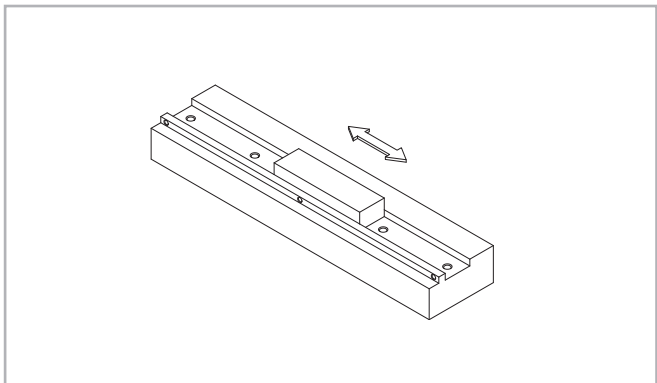

Fig. 51
(1) Whet the assembly surface with a whetstone and also remove burrs, unevenness and dirt (see fig. 51).